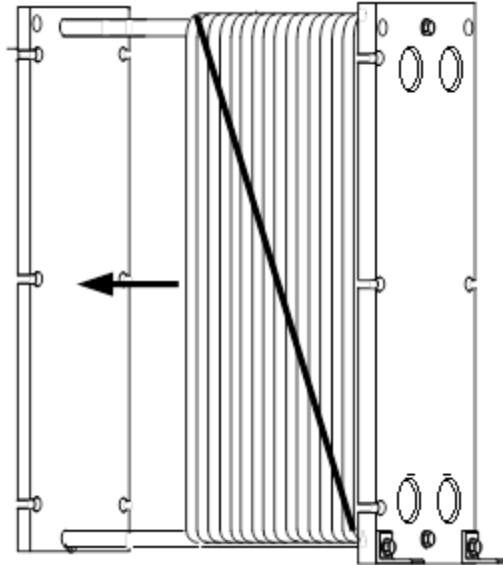

Figure 8-10. Heat Exchanger with Pressure Plate Slid Back
12. With the tightening bolts removed, the pressure plate can be slid back (Figure 8-10) and channel heat transfer plates can also be slid back for inspection or cleaning.